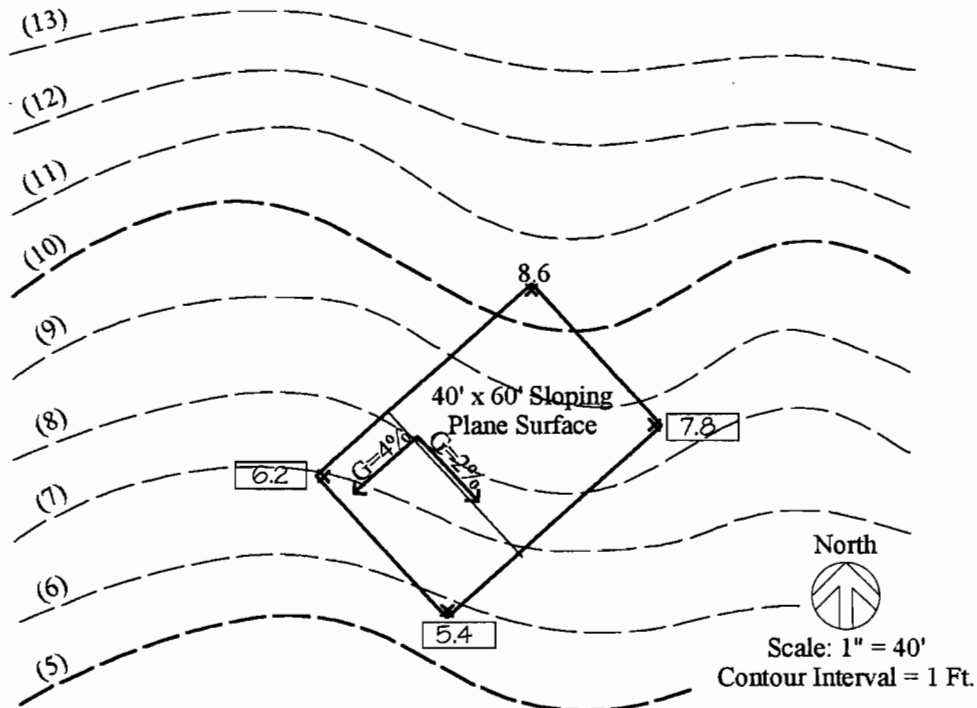

Figure 4-19. Calculating Corner Point Elevations
Step 2. Calculate the corner point elevations. Refer to Figure 4-19.
$7.8 - 2.4 = 5.4$ Figure 4-19 shows the plane surface with the three corner elevations.